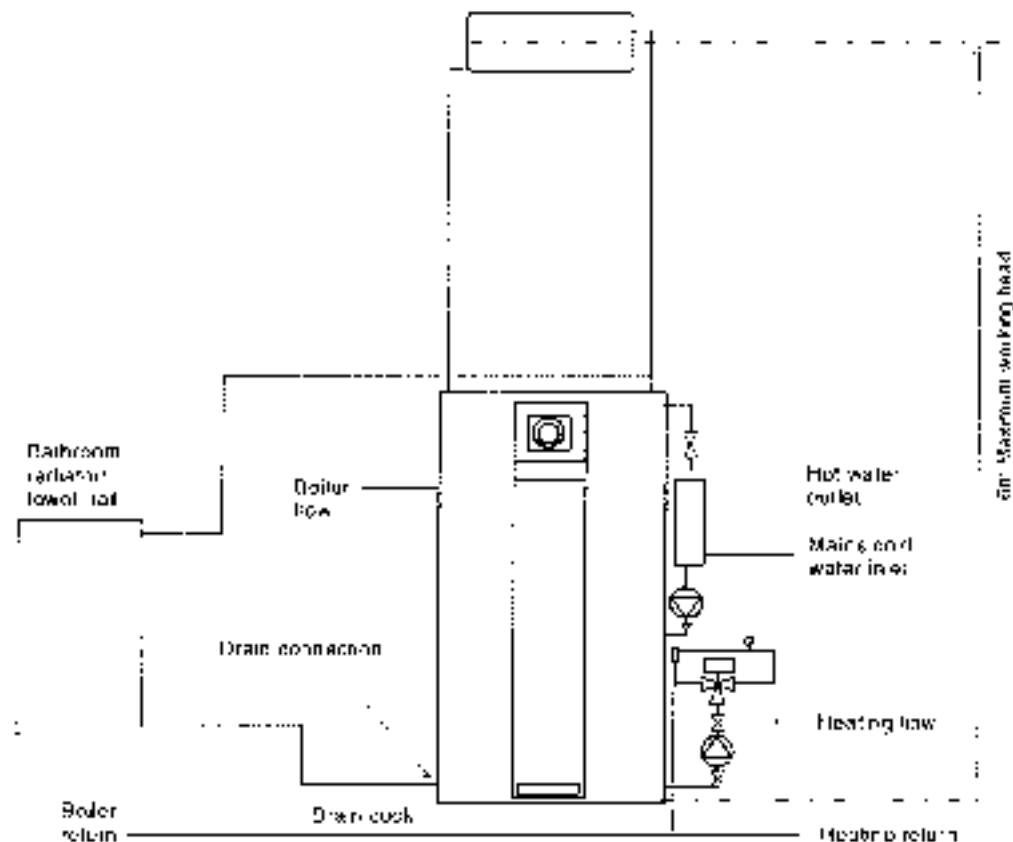

Figure 2.5 Arrangement for Connecting Bathroom Radiator or towel Rail Heated by Gravity Circulation
1. If heating of a bathroom radiator or towel rail is required in summer then it can be piped as a gravity circuit shown schematically in Figure 2.5. The flow pipe to the radiator can be taken into the safety open vent pipe and the return pipe from the radiator can be connected to the store drain connection and the drain moved to the return pipe.